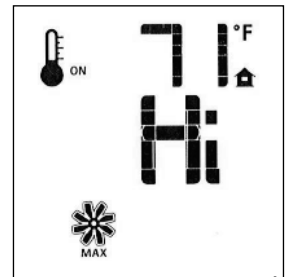

Figure 16.19. Fan Speed.
- Use the Up/Down Arrow Keys to turn ON, OFF, or adjust the fan speed. Fig. 16.19. A single “beep” will confirm reception of the command. After a 5 minute interval, the fan will power up to its highest speed and then modulate down to the established fan speed setting. The fan will continue to operate for 12 minutes after the burner is turned off. Manual speed control is not available when the SMART Thermostat is ON.